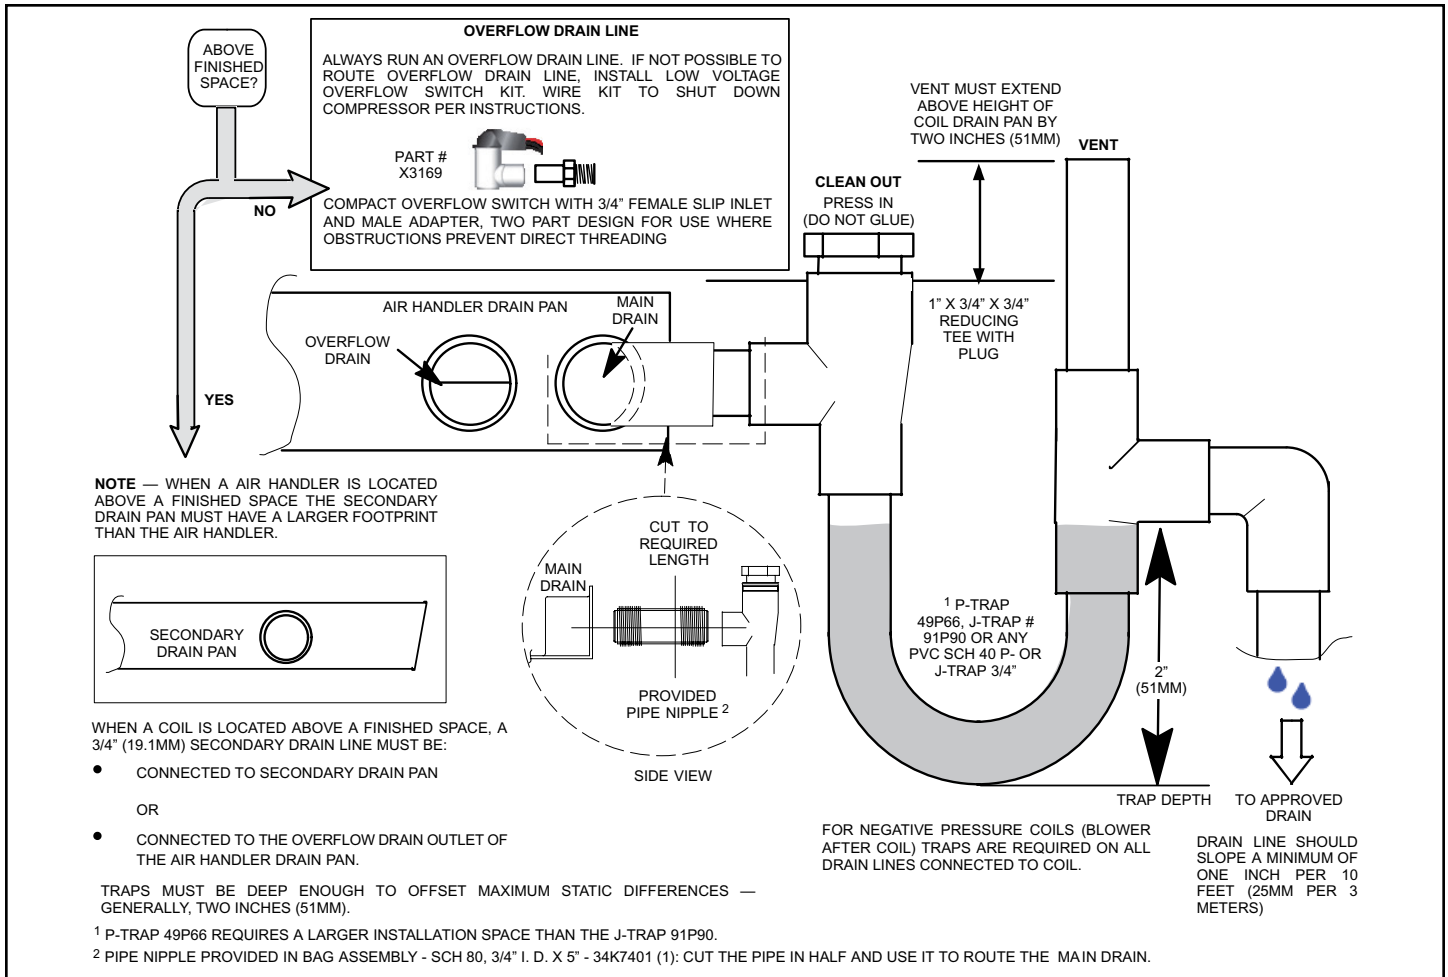

Figure 6. Typical Main and Overflow Drain
6. Install a 2" trap in the main (primary) drain lines as close to the unit as practical (see Figure 6). Make sure the top of the trap is below the connection to the drain pan to allow complete drainage of the pan.
NOTE: *Horizontal runs must have an anti-siphon air vent (standpipe) installed ahead of the horizontal run. See Figure 6. An extremely long horizontal run may require an oversized drain line to eliminate air traps.*